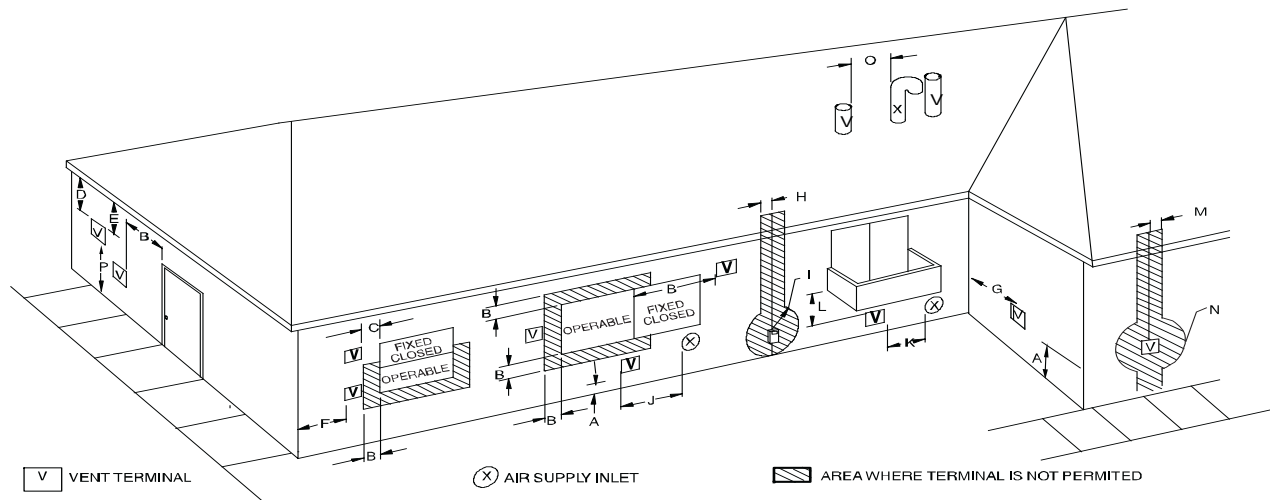
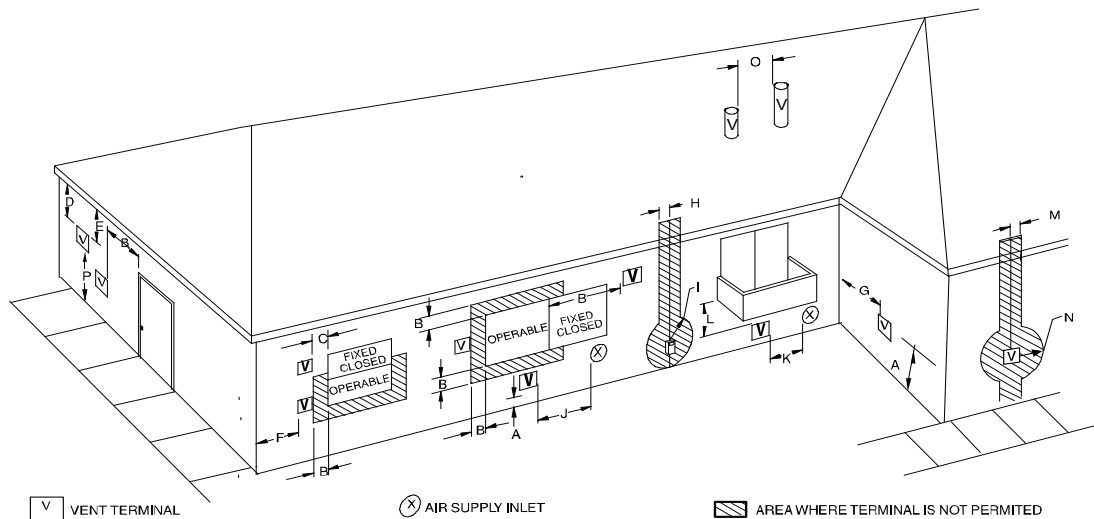
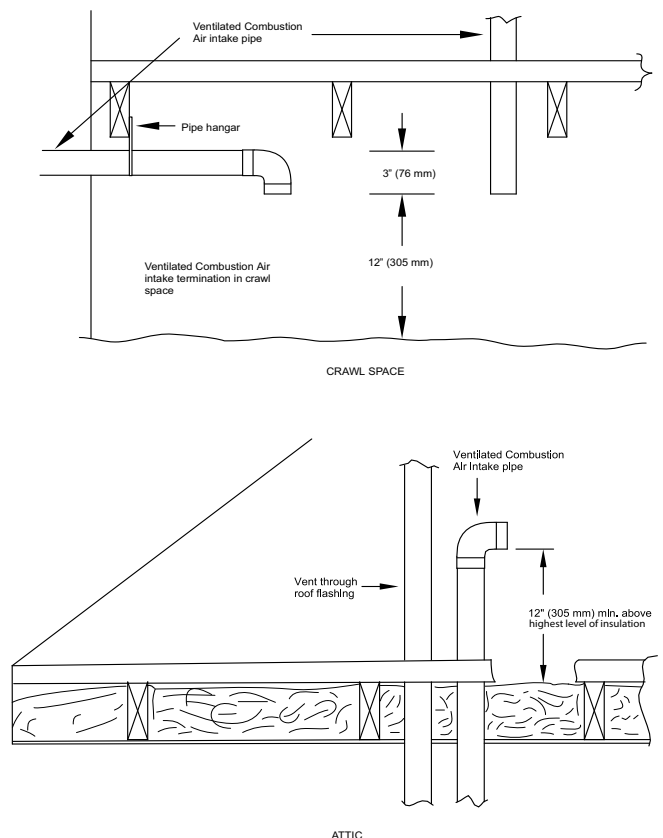

Fig. 43 – Direct Vent Termination Clearance
Fig. 44 – Ventilated Combustion Air and Non-Direct Vent Termination Clearance
Fig. 48 – Vent Terminations for Ventilated Combustion Air
In a direct-vent (2-pipe) system, all air for combustion is taken directly from outdoor atmosphere, and all flue products are discharged to outdoor atmosphere. Combustion-air and vent pipes must terminate together in the same atmospheric pressure zone, either through the roof (preferred) or a sidewall. See Fig. 43 for references to clearances required by National Code authorities.
In a ventilated combustion air option, the vent terminates and discharges the flue products directly to the outdoors similar to a direct vent system. See Fig. 44 for references to clearances required by National code authorities.
outdoor atmosphere. Air for combustion must be supplied as described in **AIR FOR COMBUSTION AND VENTILATION** on p8. Do not use an abandoned chimney to supply outside air to the furnace. See Fig. 44 for references to vent clearances required by National code authorities.
For vent termination clearance, references to National codes are shown in Fig. 43 for Direct Vent/2-Pipe system and Fig. 44 for Ventilated Combustion Air/Non-direct Vent/1-Pipe system. For exterior termination arrangements, refer to Fig. 40 for Direct Vent/2-Pipe system and Fig. 41 for Ventilated Combustion Air/Non-Direct/1-Pipe system. Contact Local code authorities for other requirements to and/or exemptions from the National codes shown in the figures.
1. Comply with all clearance requirements stated in Fig. 43 or Fig. 44 per application.
Direct vent (2-pipe) vent and combustion air pipes must terminate outside the structure. See Fig. 43 For references to vent clearances required by National code authorities. Allowable vent and combustion air terminations are shown in Fig. 40.
The vent pipe for a Ventilated Combustion Air System must terminate outdoors. See Fig. 44 for references to vent clearances required by National code authorities. Allowable vent terminations are shown in Fig. 41. The combustion air pipe terminates in a well-ventilated attic or crawl space. Follow the clearances as shown in Fig. 48.
The vent pipe for a Non Direct Vent (1-pipe) system must terminate outdoors. See Fig. 44 for references to vent clearances required by National Code authorities. Allowable vent terminations are shown in Fig. 41.